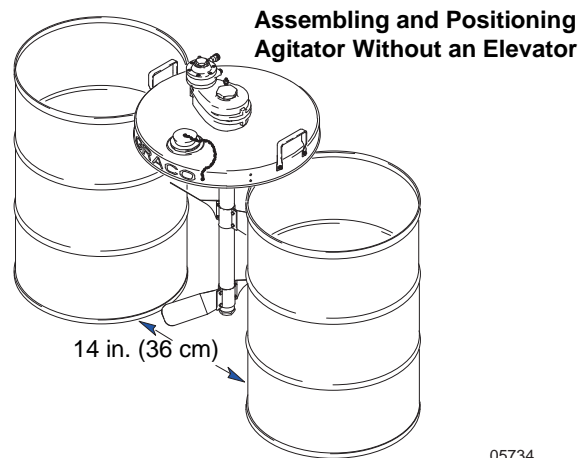

Fig. 2
Place two standard 55 U.S. gallon (45 Imperial gallon) barrels 14 in. (approximately 36 cm) apart, and center the drum cover on the barrels with the Graco logo centered and facing you, as shown in Fig. 2. Proceed to step 1 in **With or Without an Elevator**.
1. Slide the agitator shaft through the large hole in the center of the drum cover (29).
2. Rotate the agitator so that the air motor is to the left of the shaft, as shown in Fig. 2, which will align the three tapped holes in the bottom of the agitator with the three through holes in the drum cover.
3. Thread the three hex head screws (25) up through the drum cover and into the agitator, and torque them to 75 in-lb (8.4 N-m).
4. Assemble one pair of agitator blades (28) so that the four through holes in the blade halves are lined up (see Parts Drawing for blade orientation).
5. Push four cap screws (31) through the four holes in the blades, and start the lock nuts (32) onto the cap screws.
7. Tighten the four lock nuts (32) evenly to draw the blades together until they are tight on the shaft. Torque the locknuts to 50 to 55 in-lb (5.6 to 6.2 N-m). A gap will remain between the blade halves.
9. Position the second blade assembly near the bottom end of the shaft, but not on the bottom plug (20).
10. Rotate the lower blade assembly so that it is oriented 90 degrees relative to the upper blade assembly, and torque the lock nuts (32) to 50 to 55 in-lb (5.6 to 6.2 Nm). A gap will remain between the blade halves.